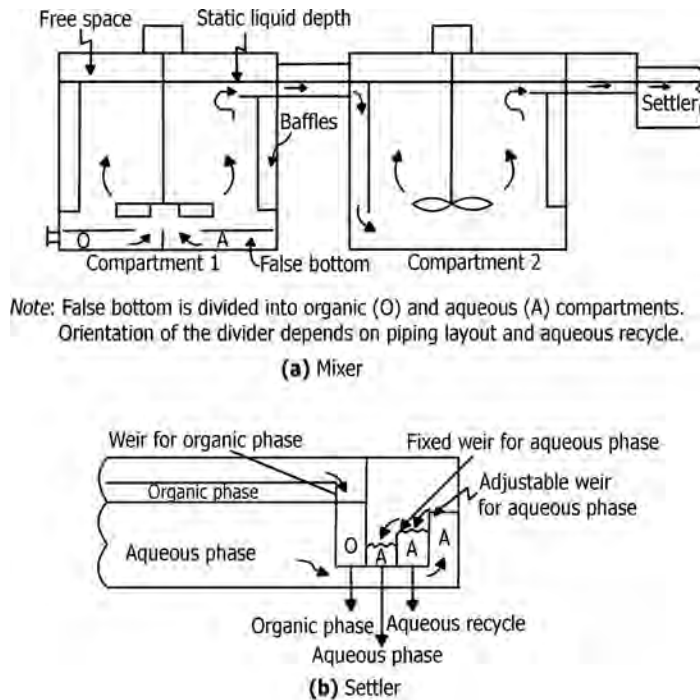

FIGURE 17.54 (a) Two-compartment mixing system and (b) drop in weir box system.
- Figure 17.54 gives diagram for a two-compartment design.